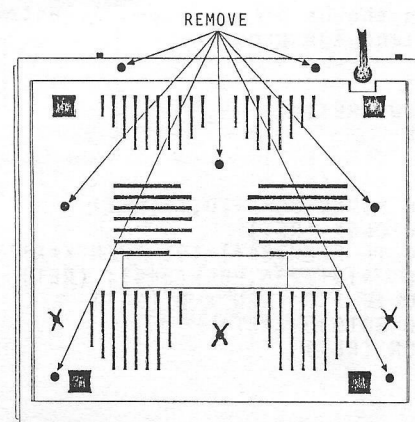

FIGURE 1
2. Next, select a convenient working area about twice the size of the Computer. You may wish to use some towelling or similar material to prevent scratching to the top while you work. Place the unit bottom up and locate the seven retainer screws that are shown in Figure 1.
7. Place the top portion of the case back on the Computer until flanges mate. Grasp both parts firmly and turn unit over. Put the two shorter screws in the front holes and the longer ones to the rear. Be sure NOT to put any screws in holes marked "X" in Figure 1 as these are dummy posts for support only. DO NOT OVERTIGHTEN screws as plastic may strip out. Snug is enough.